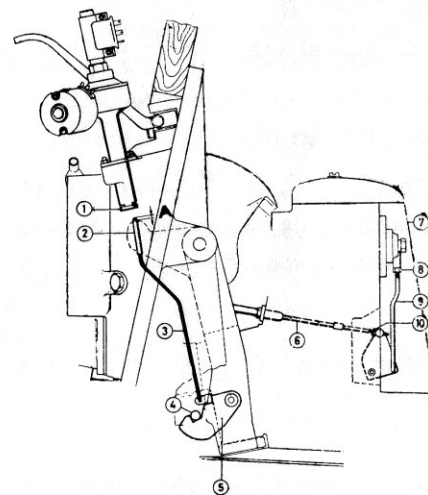

Fig. 10
1. Remove the protecting cover (7, Fig. 10) over the shift mechanism. Put the control lever in neutral position.
2. The bearings of the shift (9) and the control cable (6) must not be pinched in the lever arms in "forward," "reverse" and "neutral" position.
3. The lever has to be adjusted so that it does not come into contact with the housing in the "forward position." Adjustments can be made at (8) and (10).